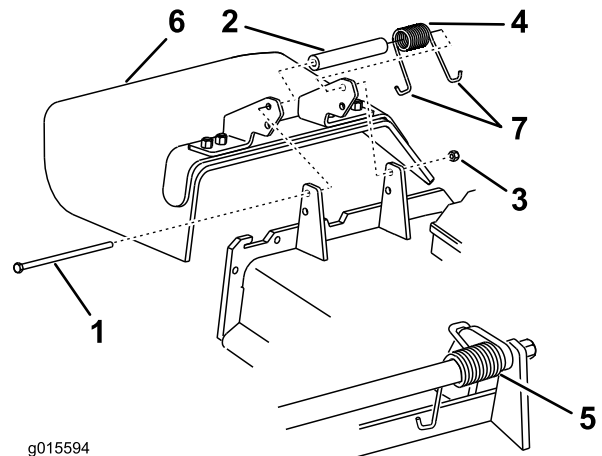

Figure 87
1. Remove the locknut, bolt, spring and spacer holding the deflector to the pivot brackets (Figure 87). Remove damaged or worn grass deflector.
Note: Make sure one J-end of spring is installed behind deck edge before installing the bolt as shown in Figure 87.
3. Install bolt and nut. Place one J-hook end of spring around grass deflector (Figure 87).